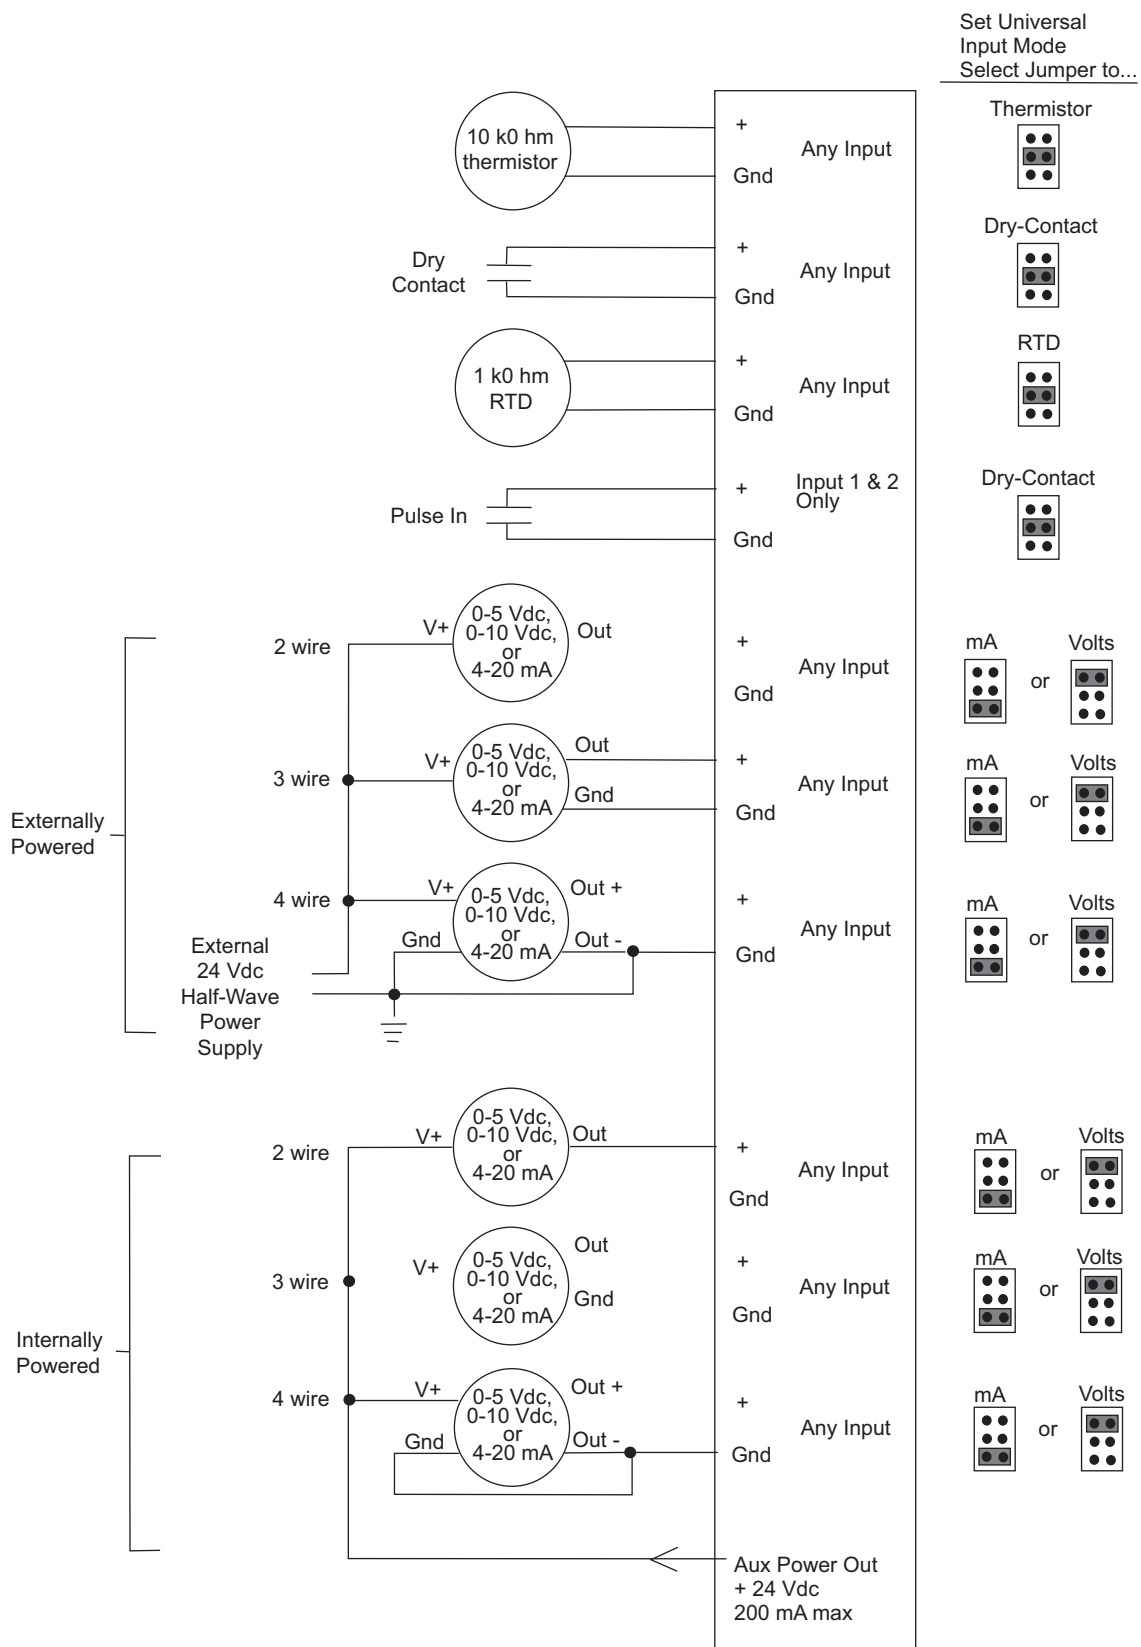

Fig. 39 — I/O Flex 6126 Controller Input Modes and Diagram
- Turn on the I/O Flex 6126 controller's power (Fig. 39).